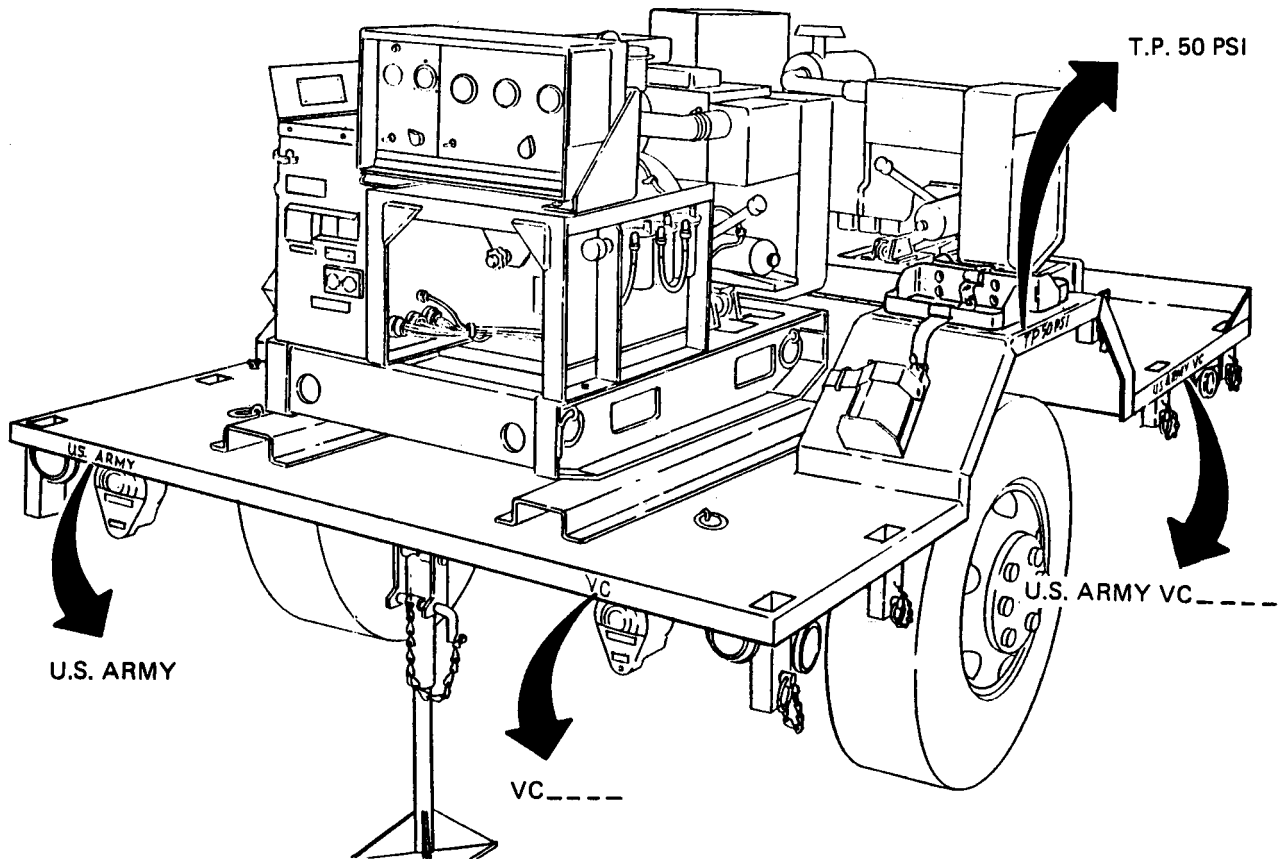

Figure 5-5. Power Plant Markings.
- (1) Remove two screws (4), two flat washers (5), and two self-locking nuts (6) securing footmans loop (7) to accessory box lid.
- (2) Position new footmans loop (7) on accessory box (3) and secure with two screws (4) two washers (5), and two self-locking nuts (6).
**5-6. Marking.** (See figure 5-5.) The power plant four-digit registration number, preceded by the prefix "VC" and the words "U.S. ARMY, " is marked in three places on the trailer. Marking is done in accordance with MIL-STD-642. On the fender, over each wheel, "T.P.50 PSI" is marked in 1.00± .12 inch high characters in accordance with MIL-STD-130. On the switch box, "GEN 1", "GEN 2" and "OFF" are marked on the cover at their respective switch lever positions. On the 5-wire switch box only, "E1" and "E2" are marked next to their respective ground terminal studs. Figure 5-5 shows the approximate location of markings on the power plant. If required, touch-up painting of the base color shall be done in accordance with MIL-T-704, Type F, color Green, No. 383 of MIL-C-46168.